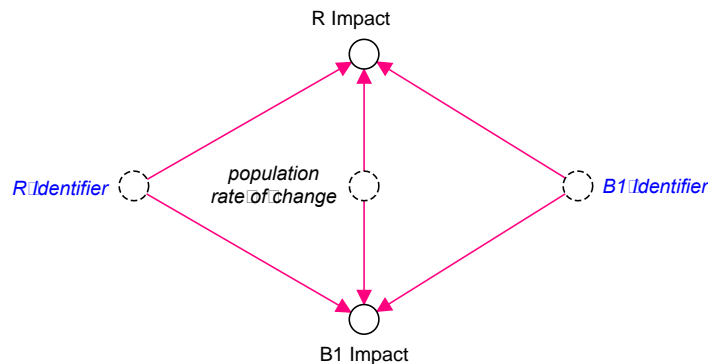

Figure 20: Computation of impact of loops *R* & *B1*.
- Using ghosting, connect the converters to new converters for the impacts, as in Figure 20: